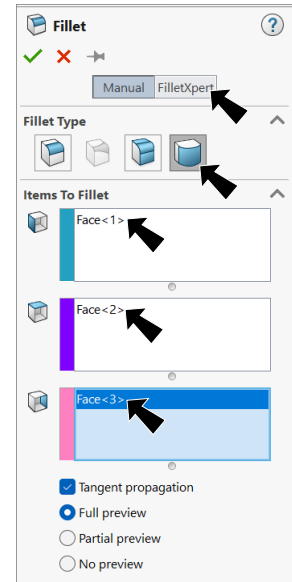

Fig. 111
Step 3. In the Fillet Property Manager, select **Manual**, **Fig. 111** under Fillet Type